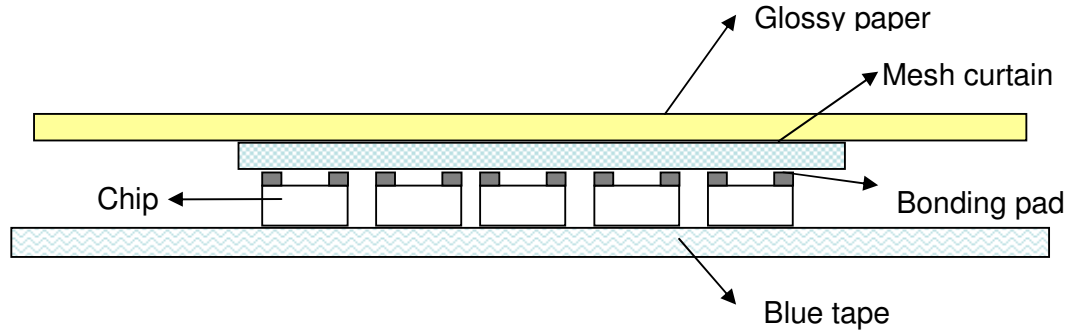

Fig 6-1 Chip on tape
6.1 LED chips are placed on the blue adhesive tape with the bonding pads facing up (i.e. sapphire is adhered to the tape) and covered with a glossy paper (See Figure 6-1)